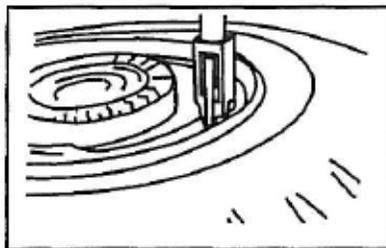

Figure 2
1. Place the bead breaker into the continuous pry bar pocket, with the hook under the lip of the bead seat band. (Fig.2)
3. Adjust the ram adjusting screw, by hand, so that the bead breaker is less than perpendicular (90°) to the wheel. (Fig. 2)